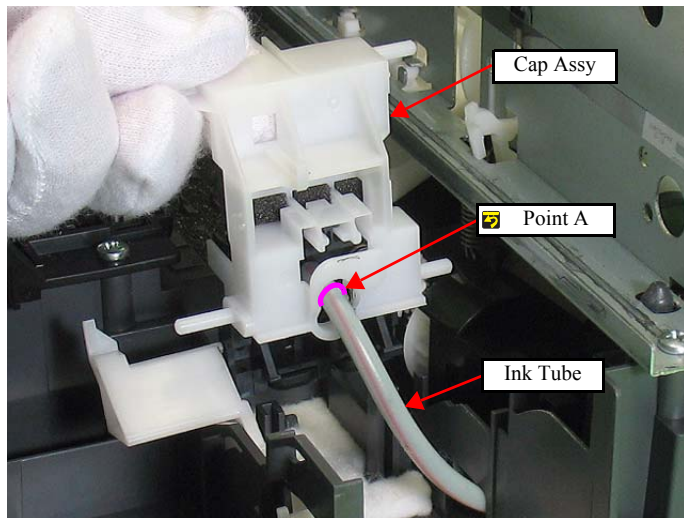
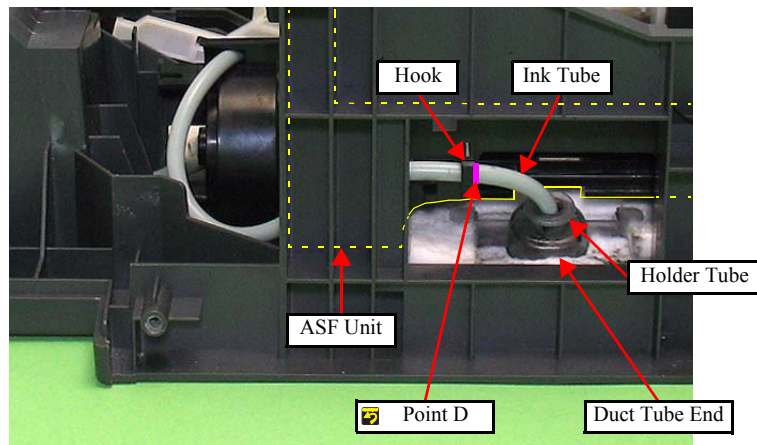
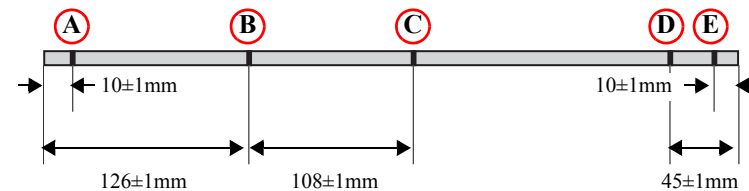

Figure 4-52. Removing the Cap Assy (4)
Figure 4-53. Removing the Pump Assy (1)
Figure 4-63. Marking on the Ink Tube
- Insert point A of the tube carefully into the Cap Assy not to let it pressed. (See Fig.4-52, Fig.4-63)
- Align point D with the right edge of the hook on the ASF Unit, then secure it. (See Fig.4-53, Fig.4-63)
- Insert the Holder Tube up to point E as shown below, and insert the holder into the Duct Tube End. (See Fig.4-53, Fig.4-63)